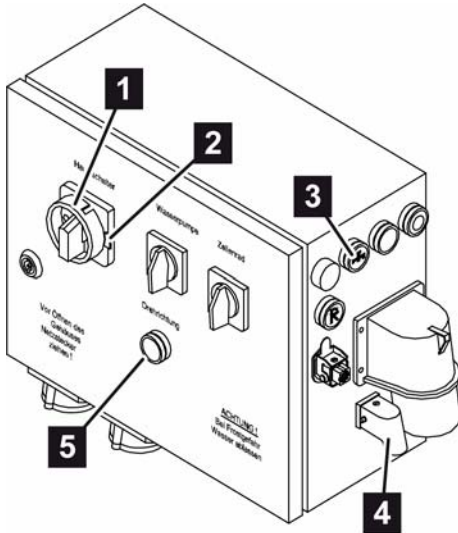

Fig. 28: Controls
1. Turn the main switch (Fig. 28/1) to position "I".
If the yellow indicator light "Change sense of rotation" (Fig. 28/5) is illuminated, change the sense of rotation.
To accomplish this, push the metal bracket (Fig. 28/2) in the opposite direction.
2. Close the control current circuit by inserting the dummy plug (Fig. 28/4) on the control panel.
3. Press the button "Water flow ON" (Fig. 28/3) to adjust the water quantity (water pump is running).